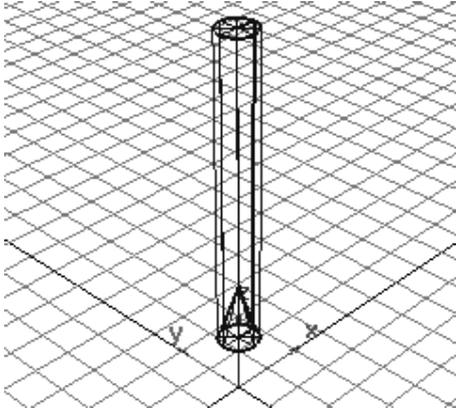

Figure 2-114 Model after scaling the tip
2. Enter **100, 100, 150** in the promptline and press ENTER; the tip of the pencil is scaled, as shown in Figure 2-114.